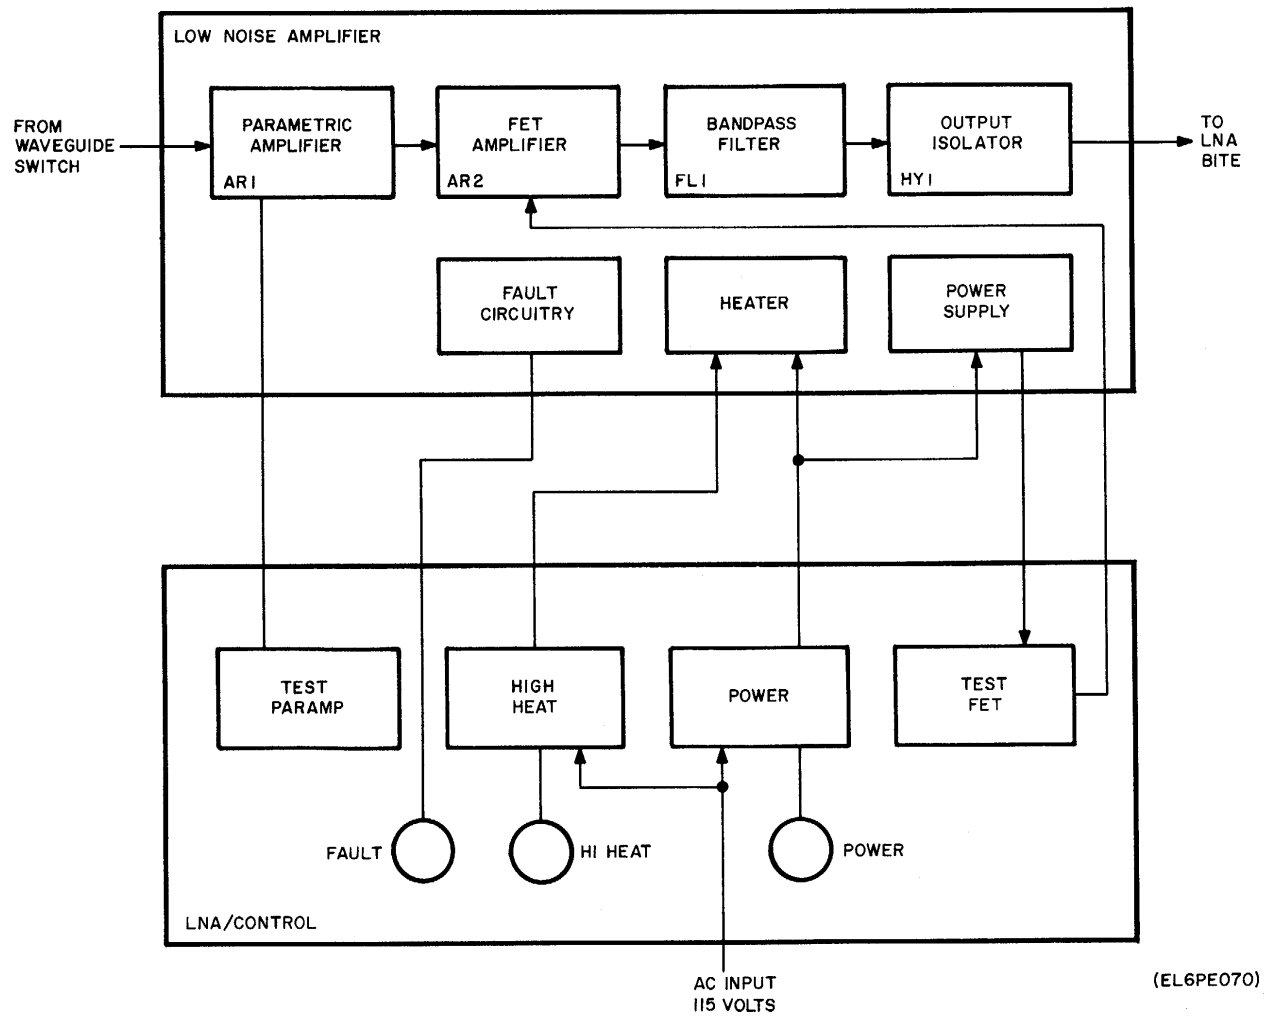

Figure 6-16. LNA Block Diagram.
(1) The LNA consists of a single-stage parametric amplifier (paramp) driving a single-stage FET " amplifier. Because of its remote location, ac power, control, and monitoring are provided by the LNA control/translator unit within the shelter.
(2) The LNA is shown in the block diagram of figure 6-16. Received SHF signals are amplified by a parametric amplifier stage to amplify the signal with a high signal-to-noise ratio. Its output drives an SHF field-effect transistor stage to amplify the signal further, for a combined stage gain of about 39 dB at the FET output. A bandpass filter, to reduce out-of-band noise, and an output isolator follow. The unit is maintained at a constant temperature of + 75 C by a dual heater system. A normal heat unit of 130 watts is on and thermostatically controlled whenever the LNA is operating. In low-temperature areas an additional 300-watt unit can be used in a high heat mode to bring the LNA up to operating temperature more quickly. All dc voltages are provided by an internal power supply. Fault circuitry is connected to a FAULT lamp on the LNA control to indicate failure, low limit in dc bias levels, or high or low temperature.